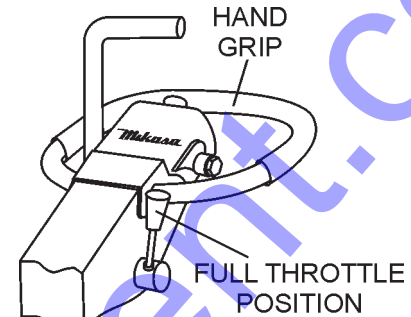

Figure 16. Throttle Lever (FAST)
1. Grasp the compactor's hand grip (Figure 16), and move the engine throttle lever quickly to the **fast** position.